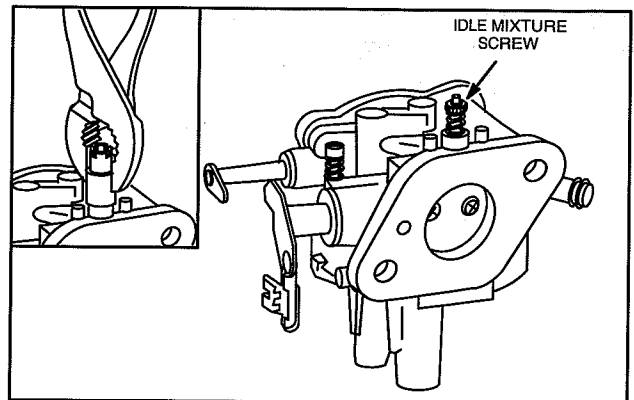

Fig. 9 – Remove Idle Mixture Screw
7. If idle mixture screw is equipped with adjustment limiter cap, use a pliers to remove before removing idle mixture screw, Fig. 9.